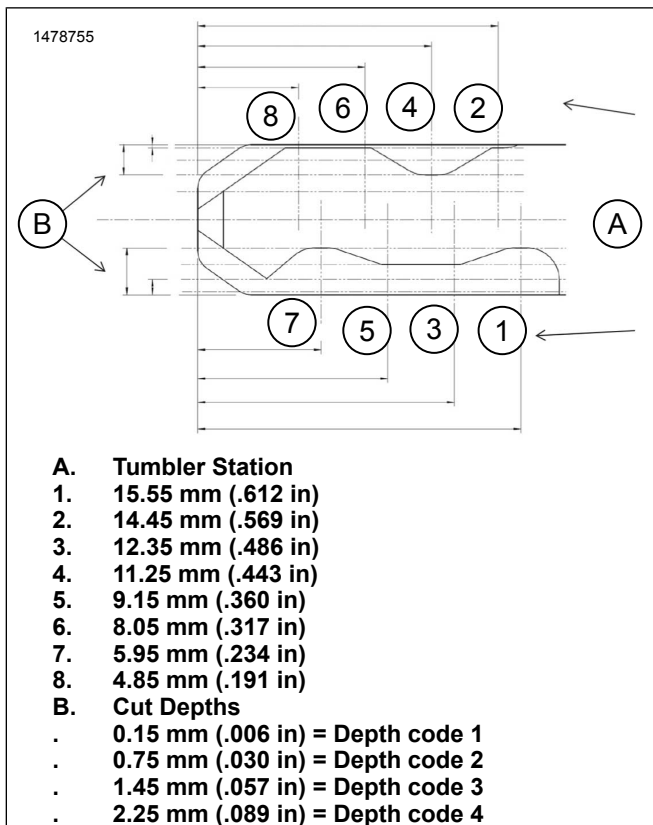

Figure 3. Key Code Diagram
- Figure 3 On Original Equipment (OE) vehicle key, determine cut depth at each key station.
- Table 3 Write key depth codes from Figure 3 based on cut depths measured.